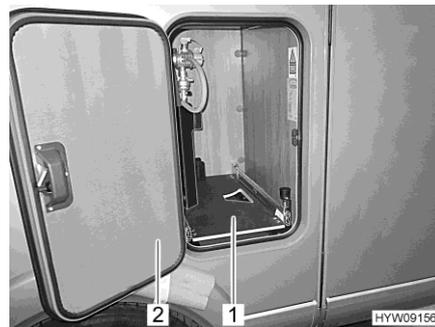

Fig. 80 Gas bottle compartment pull-out
- Open flap (Fig. 80,2) for the gas bottle compartment.
- Pull out the gas bottle compartment pull-out (Fig. 80,1) until the knob engages again. Now, the gas bottle compartment pull-out is locked in this position.